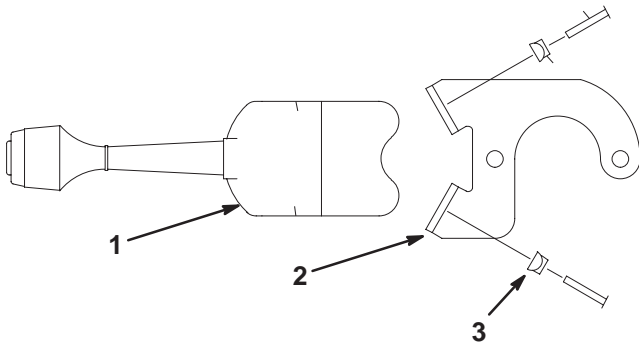

Figure 4
11. Mount the signal controller to the signal controller bracket with the 2 screws and anchors supplied with controller (Fig. 4). Discard the steel band and any unused hardware supplied with the controller.